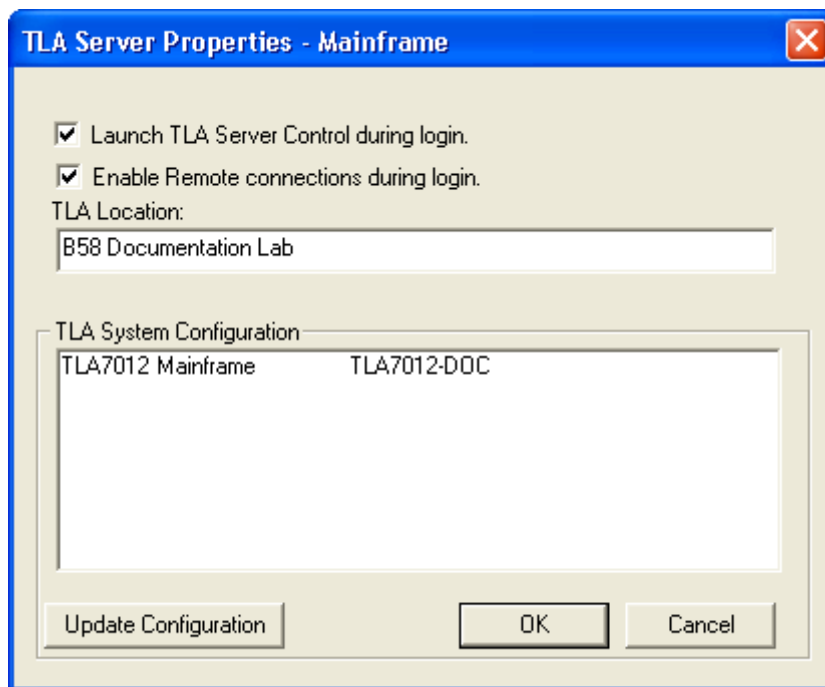

Figure 35: TLA Server Properties dialog box
2. Check **Launch TLA Server Control during login**. (See Figure 35.)